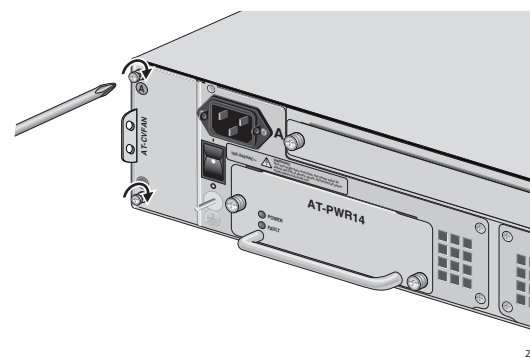
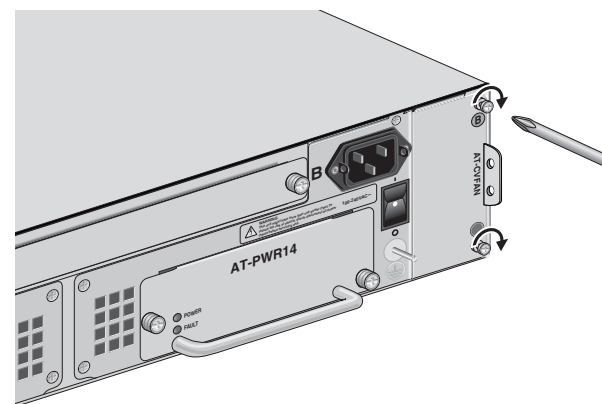

Figure 8. Tightening the Screws on the AT-CVFAN Module in Fan Slot A
Figure 9. Tightening the Screws on the AT-CVFAN Module in Fan Slot B
- Tighten the two captive screws on the fan module, as shown in Figure 8 or Figure 9.